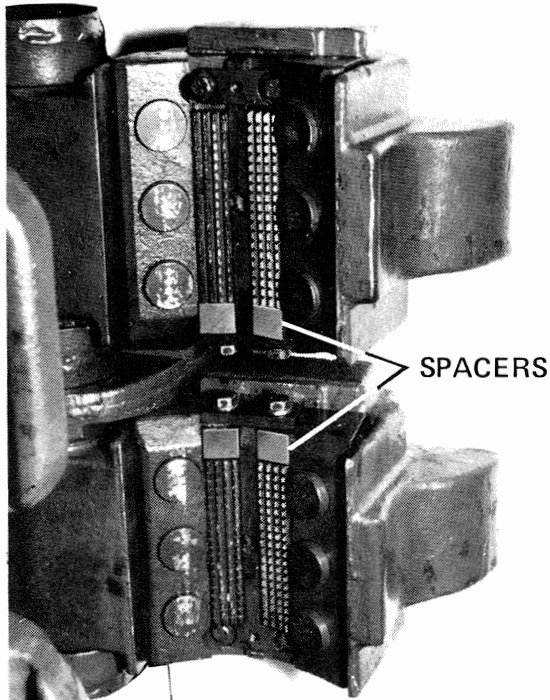
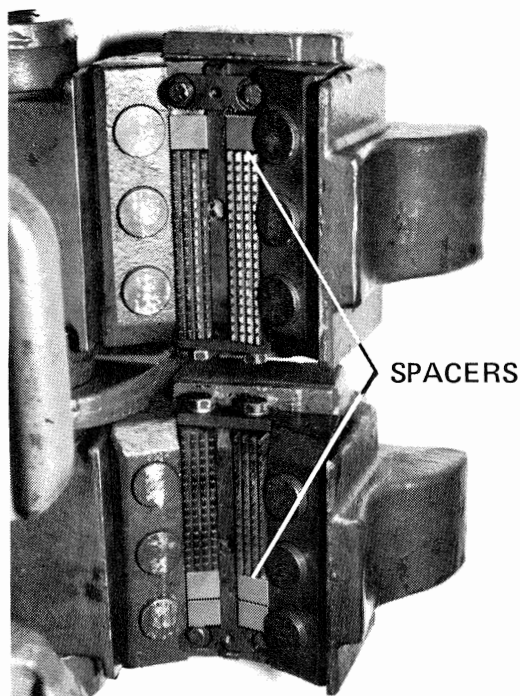

Figure 3-3. Standard Tong Die Arrangement
Figure 3-4. Hard Band Tong Die Arrangement
- Determine jaw and spacer requirements (Table 3-2). If changing the spacer only, loosen jaw retainer sleeve (Figure 3-3) on both gates and make the change.
Tong dies and spacers shipped with TW-60 are as shown in Figure 3-3. Note that the dies are 5-7/8 inches long and the spacers are in the middle. For use with hard band pipe, the dies and spacers must be the same as Figure 3-4. Lower jaws, both piston and gate, use 5-inch dies with two spacers at the bottom of the